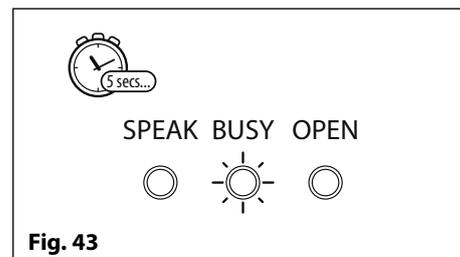

Fig. 43
7. After a short delay of approximately 5 seconds the busy LED will stop flashing, as shown in **Fig.43**, to indicate that the master code has been reset back to the factory default 1111 (4x1);
8. After the reset remove the short between the blue (c) and yellow (6) wires.